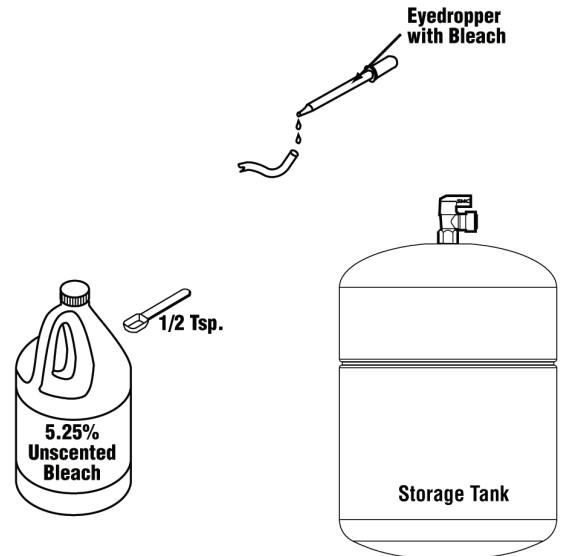

Fig. 7
- 3) Insert into the yellow tubing 1/2 teaspoon (3 ml) of household bleach (5.25%). (See Fig 7)